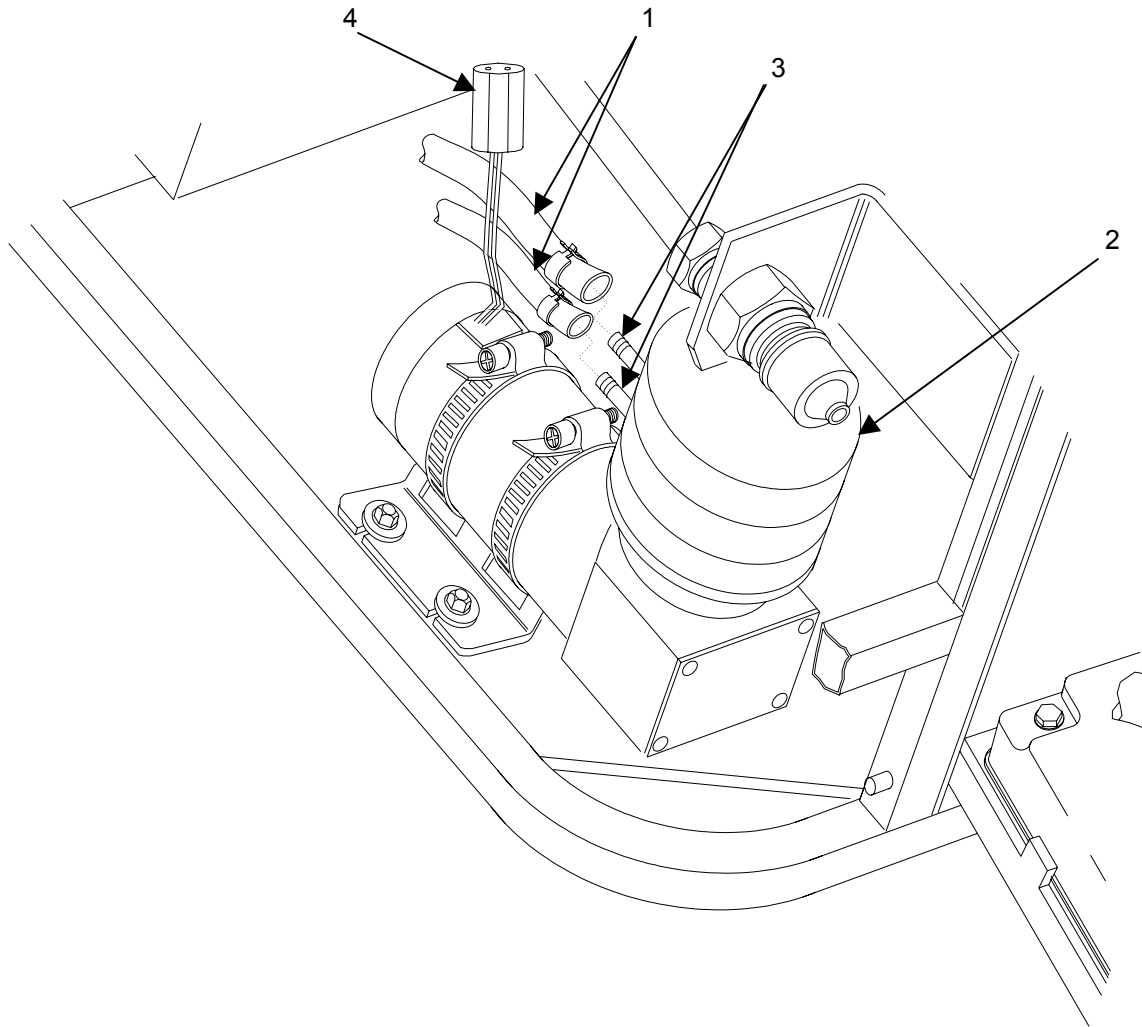

Figure 2. Test the Compressor Assembly
2. Disconnect air lines (**figure 2, item 1**) from compressor (**figure 2, item 2**).
3. Connect power to the MBU, and press START. The compressor (**figure 2, item 2**) should start, and air should discharge from the compressor air line fittings (**figure 2, item 3**).
4. If air discharges from the compressor air line fittings (**figure 2, item 3**), reconnect the air lines (**figure 2, item 1**) and reassemble the Reflective Heat Shield and Burner Assembly.
5. If the compressor (**figure 2, item 2**) does not start, listen for indications of a locked or damaged compressor, such as a loud humming sound, or uneven or unusually noisy operation. If these indications are present, the compressor must be replaced.
6. If the compressor (**figure 2, item 2**) does not start, and there are no indications of mechanical damage to the compressor, disconnect the compressor power wire harness connector (**figure 2, item 4**).
7. Use an ohmmeter to test for continuity between the compressor power leads at the harness connector (**figure 2, item 4**). Replace a compressor (**figure 2, item 2**) with an open motor winding.
8. Reconnect the compressor power wire harness connector (**figure 2, item 4**).
9. Reconnect the air lines (**figure 2, item 1**) to the compressor (**figure 2, item 2**).